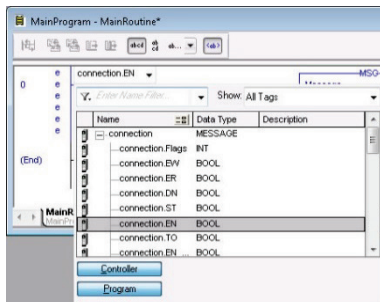

Figure 63: Configure XIO Element
- a) Double-click on the XIO element located to the left of the MSG block. In the drop-down box, double-click on the “connection.EN” field. Refer to Figure 63. This configuration causes the MSG instruction to automatically retrigger itself when it completes. While this is acceptable for the purposes of this example, it can produce high network utilization. In actual practice, it may be desirable to incorporate additional logic elements to allow triggering the MSG instruction at a specific rate or under specific conditions.